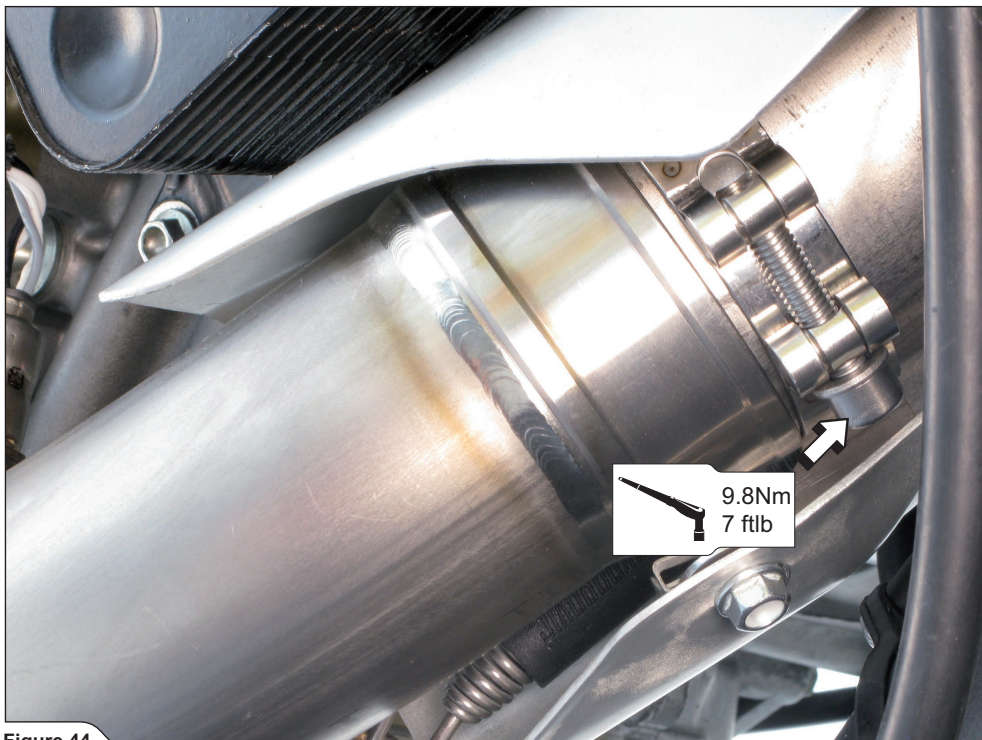

Figure 44
14. Tighten the front header's clamp to the specified torque (Figure 44).